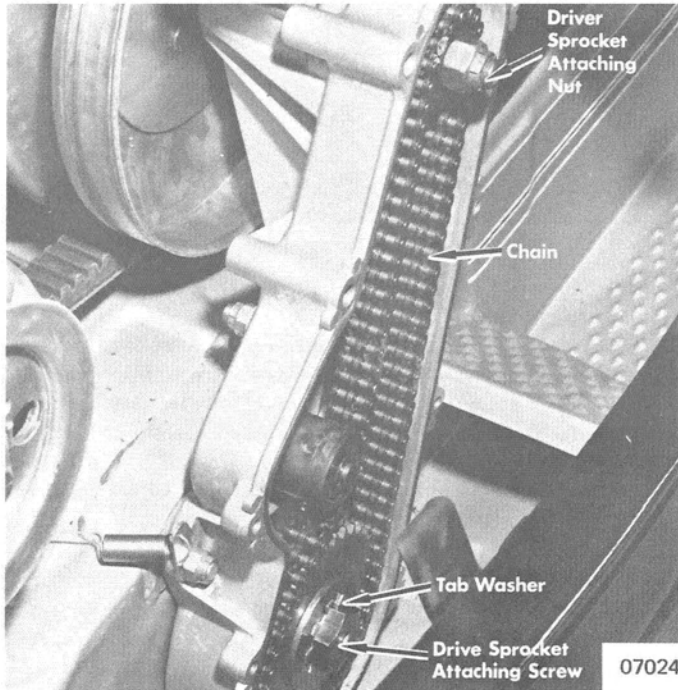

Figure 4. Driver Sprocket, Drive Sprocket and Chain
3. Remove attaching nut or bolt from driver sprocket. (Figure 4)
4. Bend tabs on tab washer down and remove special drive sprocket attaching screw. (Figure 4)